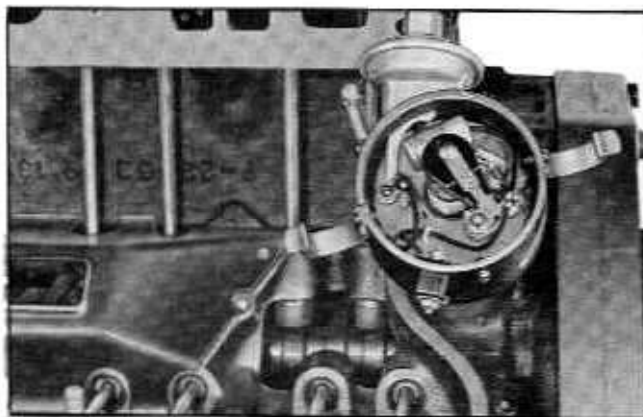

Fig. 12-54 Relationship of Distributor Housing and Rotor in Firing Position for No. 1 Cylinder
3. Install distributor in block so that vacuum diaphragm faces the right side of the engine and rotor points toward contact in cap for No. 1 cylinder. Before installing distributor, index rotor with housing as noted when distributor was removed. This will simplify indexing the distributor shaft and gear with the oil pump drive shaft and the drive gear on the camshaft. Distributor and rotor will be positioned as shown in Fig. 12-54 when properly installed with No. 1 piston in firing position.